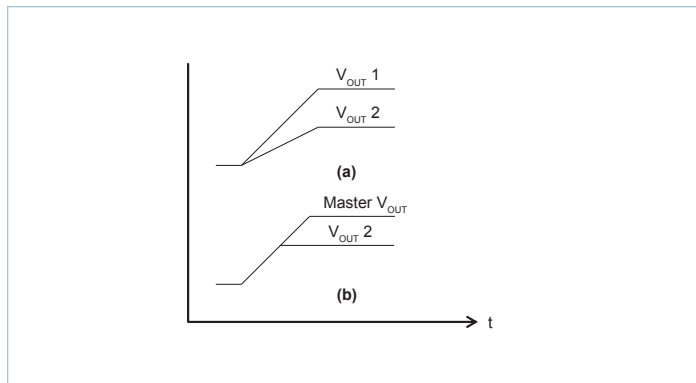

Figure 88 — PI358x-00 tracking responses
There is typically either proportional or direct tracking implemented within a design. For proportional tracking between several regulators at start up, simply connect all PI358x-00 device TRK pins together. This type of tracking will force all connected regulators to start up and reach regulation at the same time (see Figure 88(a)).
For Direct Tracking, choose the PI358x-00 with the highest output voltage as the master and connect the master to the TRK pin of the other PI358x-00 regulators through a divider (Figure 88) with the same ratio as the slave's feedback divider.
All connected PI358x-00 regulator soft-start slopes will track with this method. Direct tracking timing is demonstrated in Figure 88(b). All tracking regulators should have their Enable (EN) pins connected together to work properly.